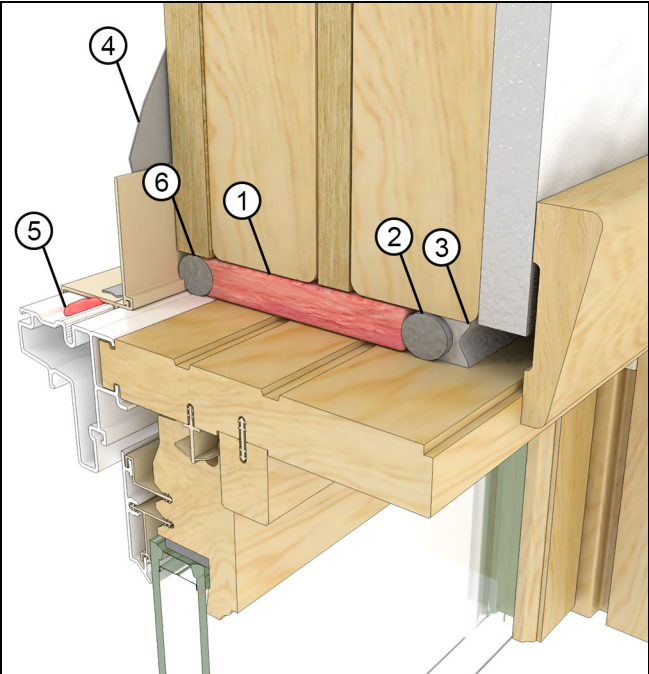

Figure 20
1. Loose Fill Fiberglass Insulation. Insulate the RO cavity with loose fill fiberglass insulation. Install a backer rod and sealant at the interior plane of the RO to create a continuous air seal. See Figure 20.